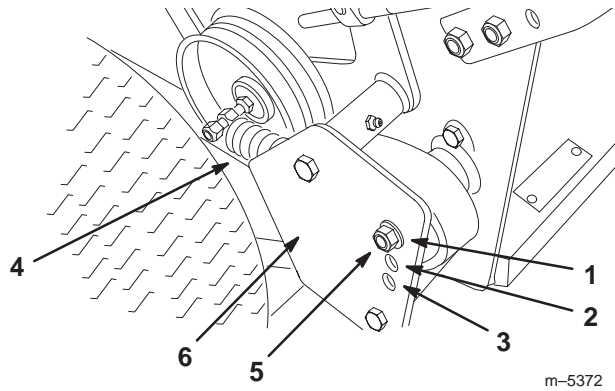

Figure 17
- Remove the drive spring from the adjustment bolt (Fig. 17).
- Remove the locknut that secures the adjustment bolt to the drive pulley shield (Fig. 17).
Note: The wheel drive tension is lowest when the bolt assembly is in Position A. The tension increases in Positions B and C (Fig. 17).